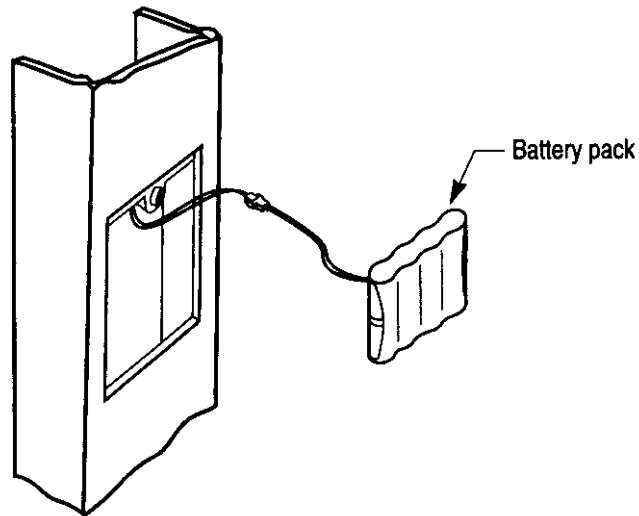

Figure 2.11
2. Insert the battery pack into the battery compartment as shown in Figure 2.11.